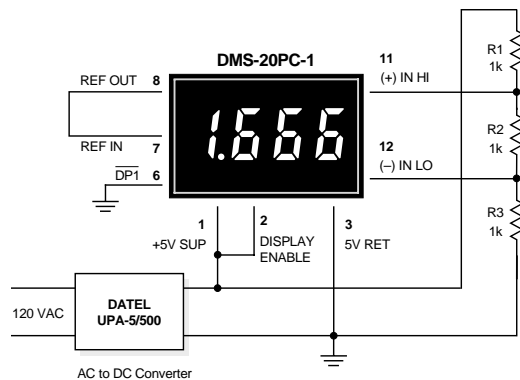

Figure 3. Differential Input Configuration
**2. Differential Input Configurations:** Differential measurements can be made with all DMS-20PC meters. Figure 3, though not a practical real-world application, uses a voltage divider to demonstrate the concept of a differential input signal. Be careful not to exceed the ±2V common mode voltage limitation for 5V-powered meters.